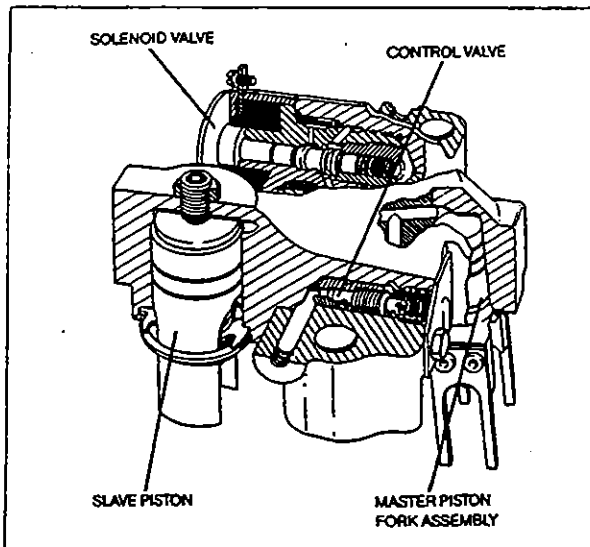

Fig. 1.6.1
- 71A/92A (Fig. 1.6.1): Used on all 4, 6, 8, 12 and 16 cylinder engines whether naturally aspirated, turbocharged, TA or TTA engines